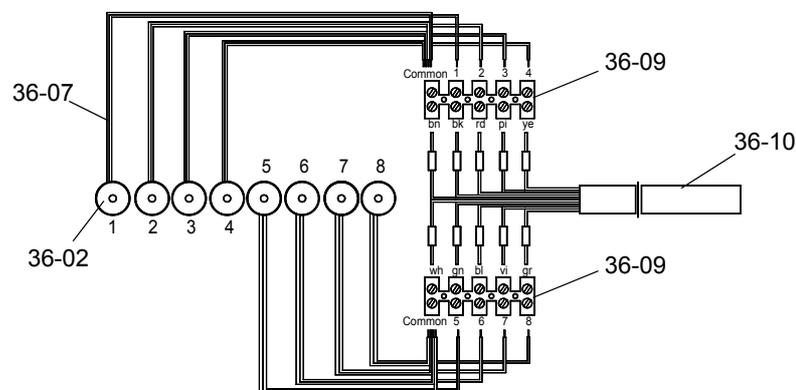

Figure 6-46 Wire connections on distribution block
- 3 Disconnect the respective valve wires from the distribution block (see Figure 6-46).
- For correct wire connection to the distribution block (36-09) refer to Figure 6-46.